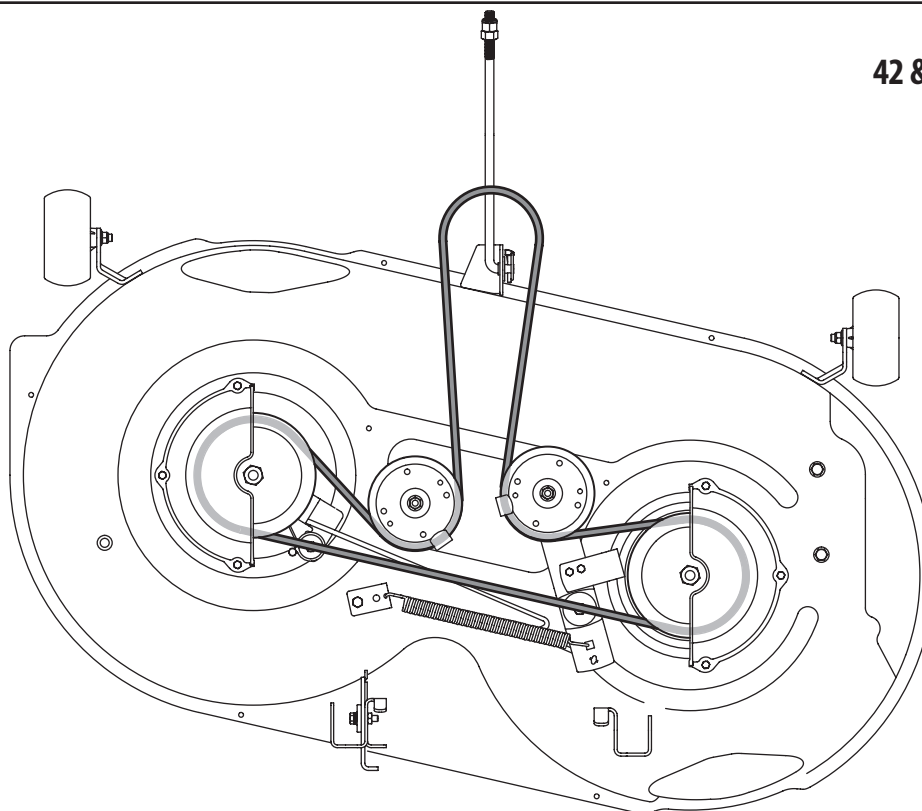

Figure 7-10
9. Re-install the deck, making sure the belt remains routed around the pulleys as instructed. See Fig. 7-10.